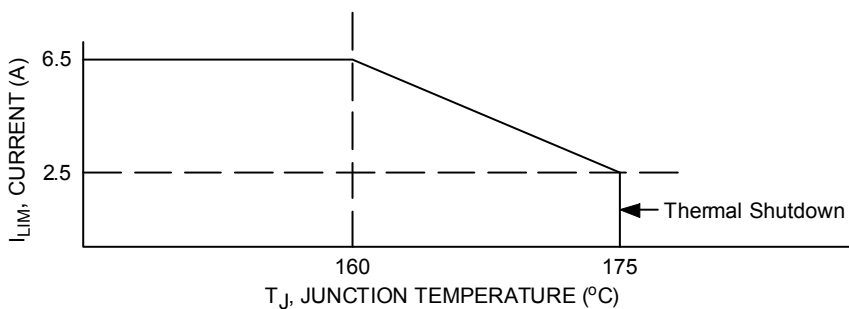
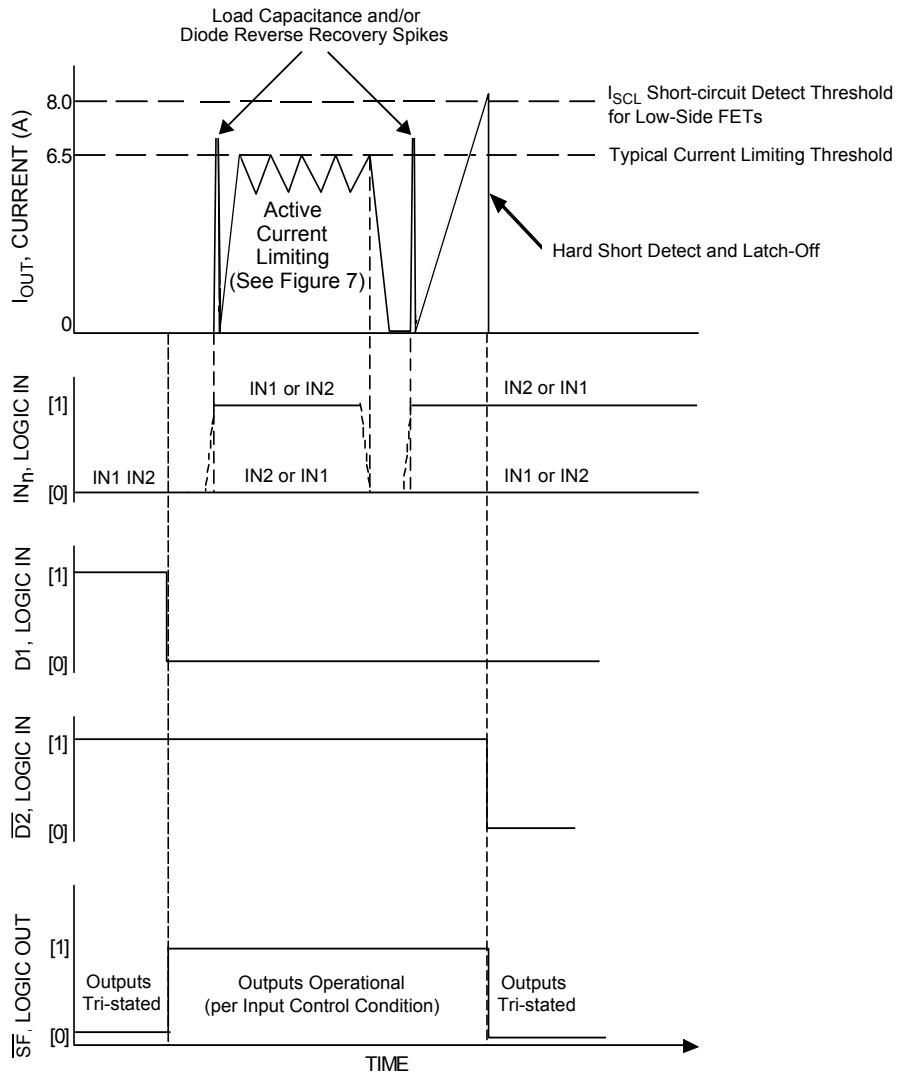

Figure 7. Active Current Limiting Versus Temperature (Typical)
Figure 8. Active Current Limiting Versus Time
26. Increasing currents will become limited at I_{LIM} . Hard shorts will breach the I_{SCH} or I_{SCL} limit, forcing the output into an immediate tri-state latch-OFF. See Figures 8 and 9, page 10. Active current limiting will cause junction temperatures to rise. A junction temperature above 160°C will cause the active current limiting to progressively “fold-back” (or decrease) to 2.5 A typical at 175°C where thermal latch-OFF will occur. See Figure 7, page 9.
The current limiting threshold value is dependent upon the device junction temperature. When $-40\text{ }^\circ\text{C} < T_J < 160\text{ }^\circ\text{C}$, I_{LIM} is between 5.2 A and 7.8 A. When T_J exceeds $160\text{ }^\circ\text{C}$, the I_{LIM} current decreases linearly down to 2.5 A typical at $175\text{ }^\circ\text{C}$. Above $175\text{ }^\circ\text{C}$ the device overtemperature circuit detects T_{LIM} and overtemperature shutdown occurs (see Figure 7, page 9). This feature allows the device to remain